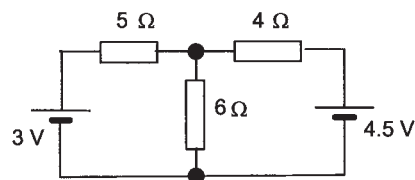

Figure 18.38 Problem 3
- 3 Using Thévenin's theorem, determine the current through the 6Ω resistor in Figure 18.38.
- 7 Using Norton's theorem, determine the current through the $6\ \Omega$ resistor for the circuit shown in Figure 18.38.